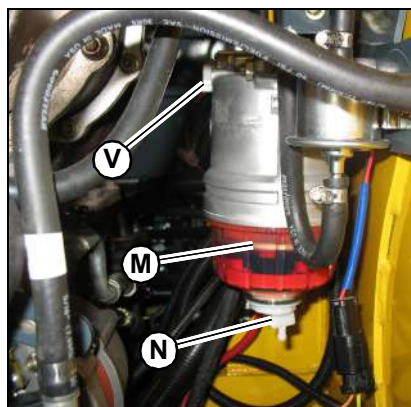

Figure 99 – Water Separator
3. Inspect the water separator (Figure 99) for the presence of water:
- If the indicator ring (M) is at the bottom of the cup, no action is required.
- If the indicator ring (M) is floating off the bottom of the cup, water is present and needs to be drained.
5. Turn the fuel valve lever (V) on the water separator to the OFF position.
6. Loosen drain plug (N) at the bottom of the water separator. Allow water to drain until indicator ring falls to the bottom of the cup.
3. Turn the fuel valve lever (V, Figure 99) on the water separator to the OFF position.
6. Turn the fuel valve lever (V) on the water separator to the ON position.